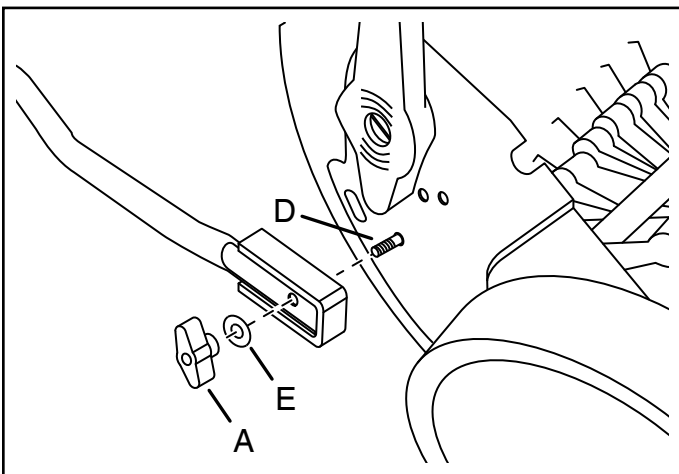

FIGURE 2
STEP 2: (SEE FIGURE 2)
- Fasten the handle attachment brackets and lower handle tube to the Power Rake housing using two carriage bolts (D), washers (E) and wing knobs (A).